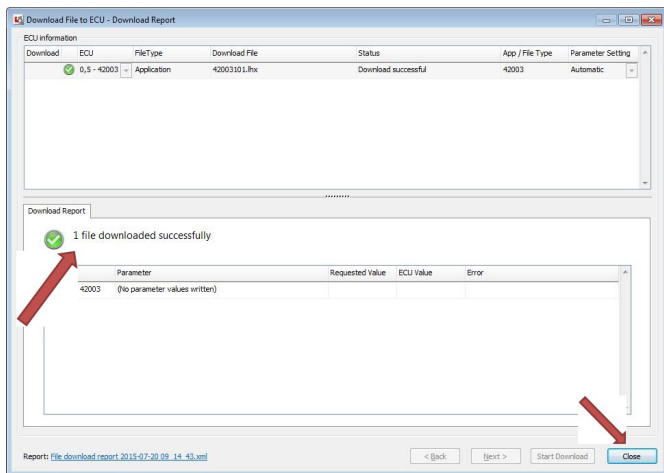

Figure 28. Download Successful Screen
10. Verify that the download was successful and click "Close" button (Figure 28).